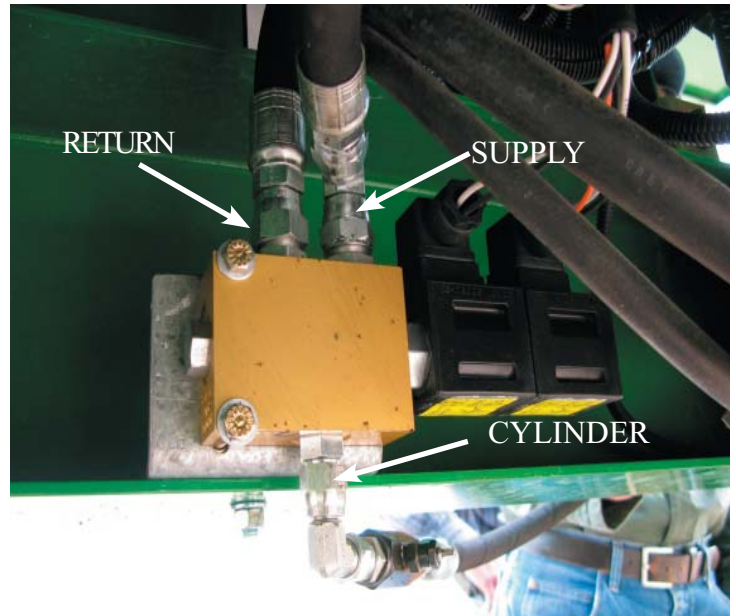

Figure 2.4 -Hydraulic Valve & fittings
Refer to *Figures 2.4, 2.5, and the Hydraulic Diagram on page 12* for this step.
1. Assemble the hydraulic valve assembly as per *figure 2.4*. Refer to the Hydraulic Diagram on page 11 for the fitting assembly. This photo is to be used as a reference only; Location chosen is open due to the complexity added by the space requirements of various optional models and features. The fittings required will be the same as shown on the Hydraulic Diagram.